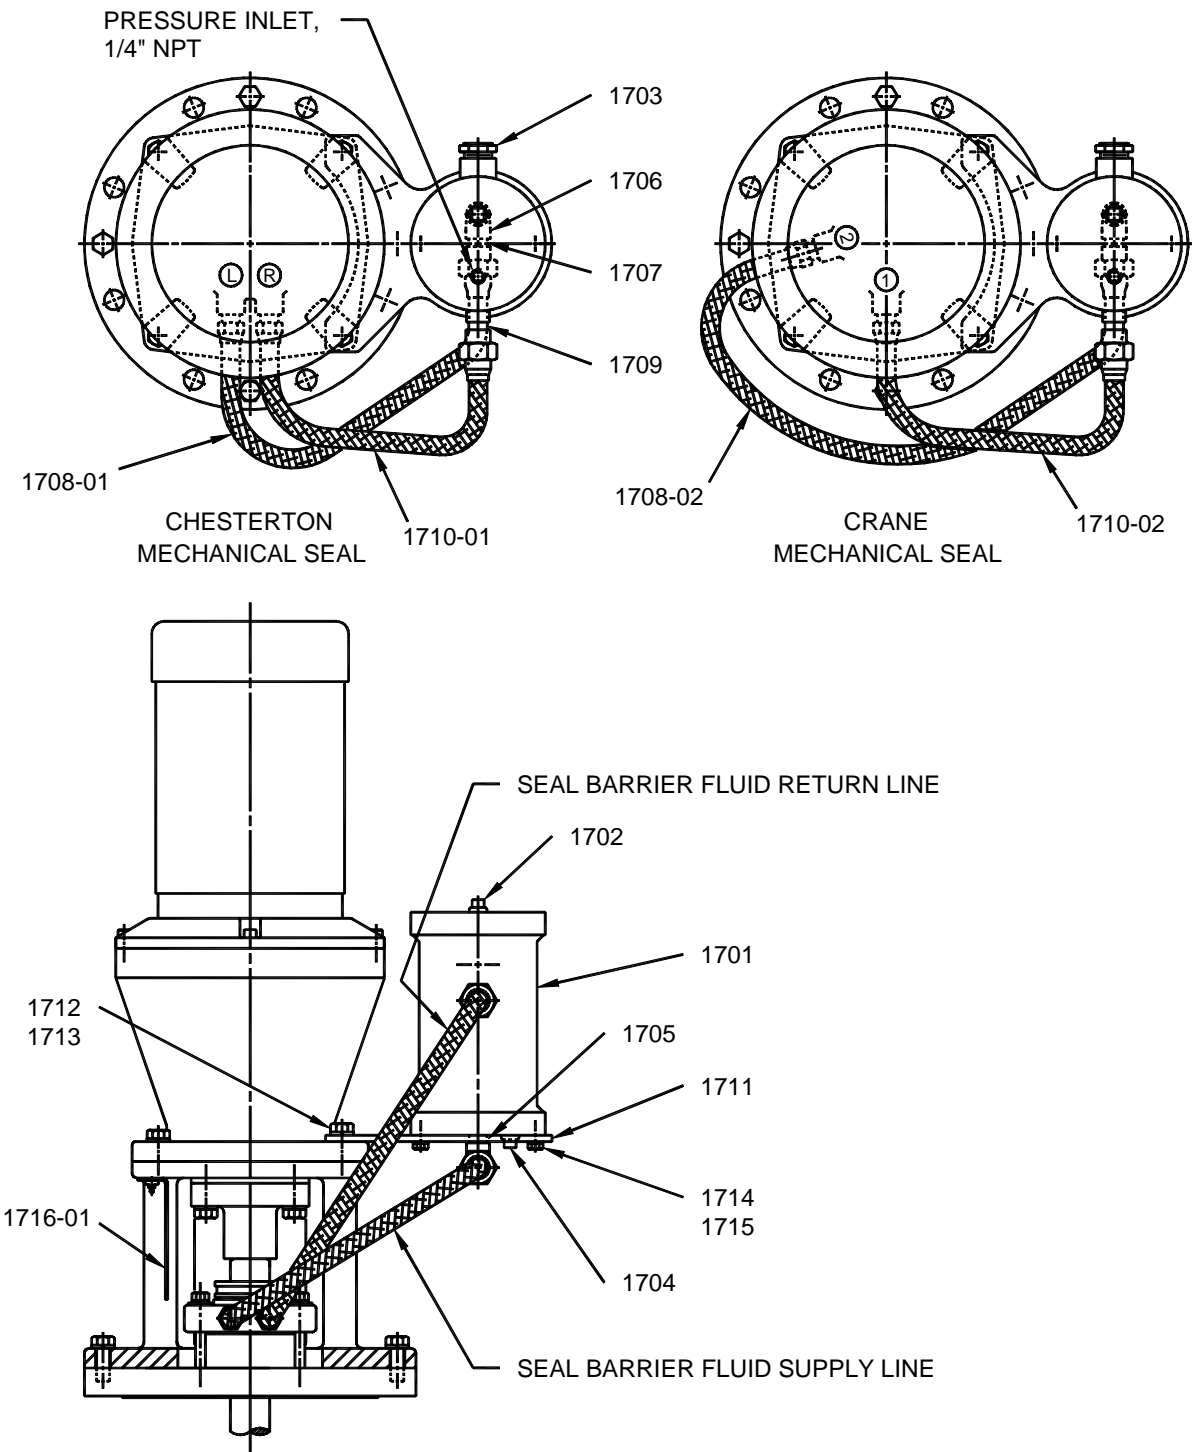

Figure 11: Seal Lubrication System
*NOTE: The barrier fluid port connections are dependent upon the mixer extension shaft rotation. The standard mixer extension shaft rotation is clockwise, when looking into the tank. Refer to Figure 11, page 30.*